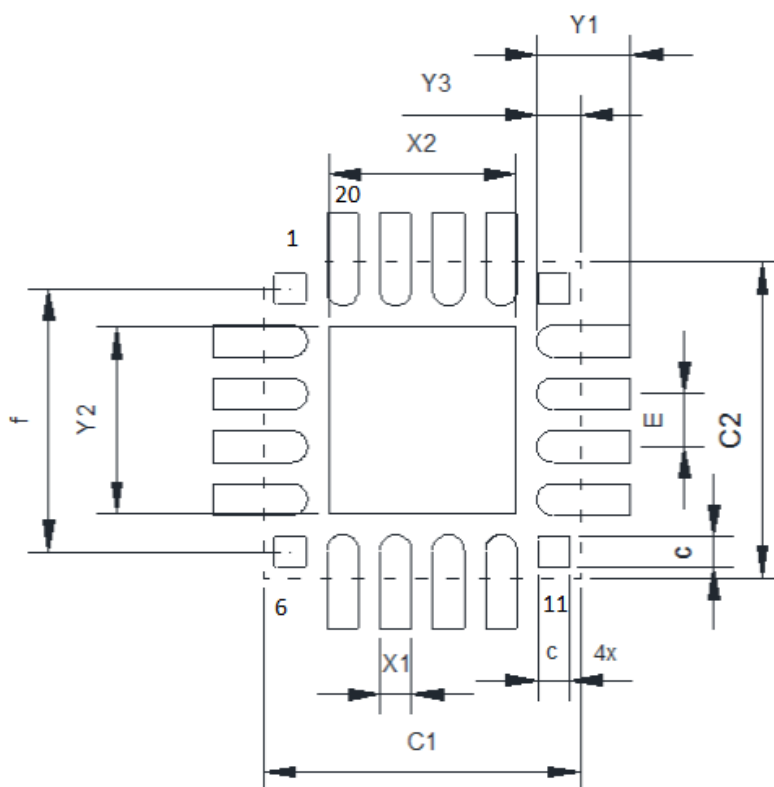

Figure 19. 20-pin QFN PCB Land Pattern
- Updated Figure 19 on page 37 to show top view of the package.